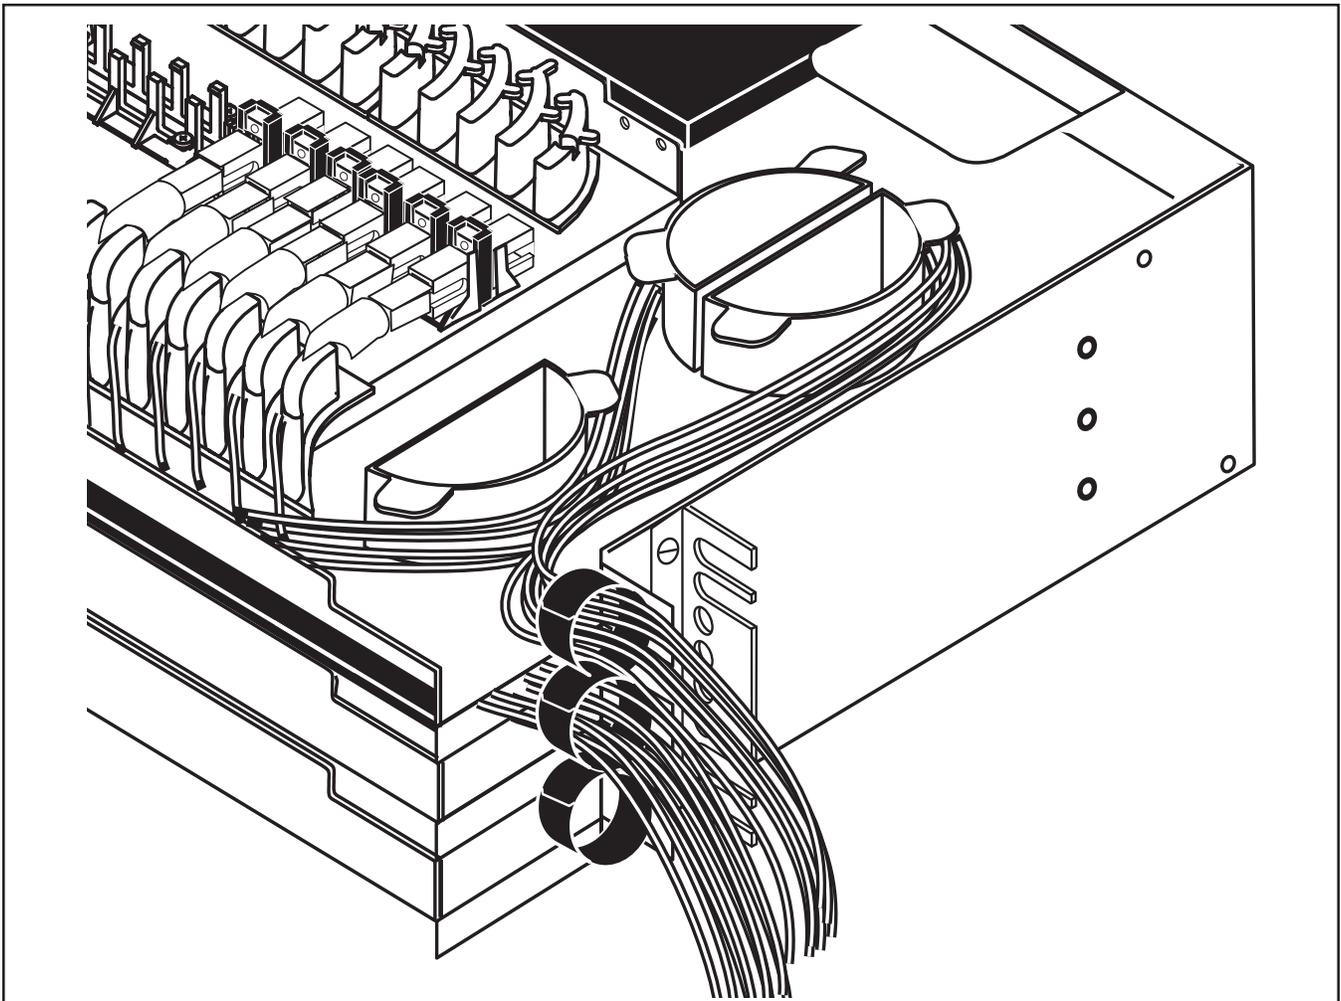

Figure 24
12.2 Route jumpers around routing guides on the drawer assembly as shown in Figure 24.